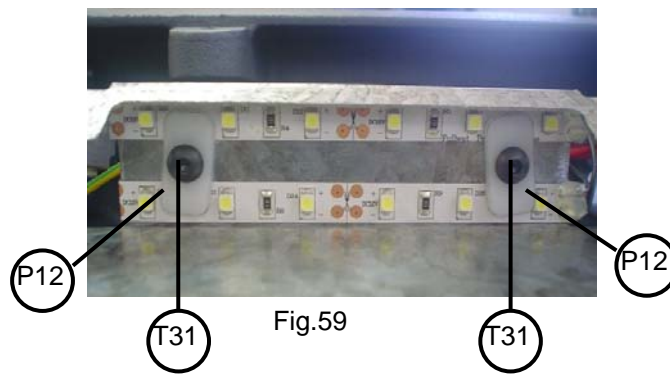

Fig.59
- 3) Release the two power strip cables (P11), by releasing the two screws (T29). (Fig.59)
- 5) Release the two LED holders (P12) by unscrewing the two screws (T31). (Fig.59)